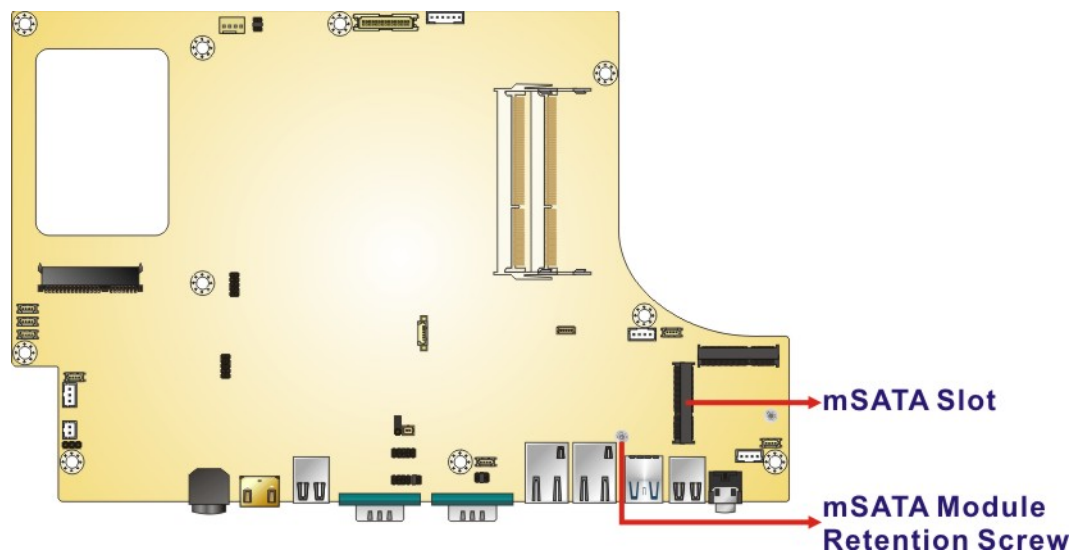

Figure 3-6: mSATA Slot Location
Step 2: Locate the mSATA slot (**M_PCIE1**) on the motherboard. Remove the preinstalled retention screw on the screw pillar of the PCIe Mini slot as shown in (**Figure 3-6**).